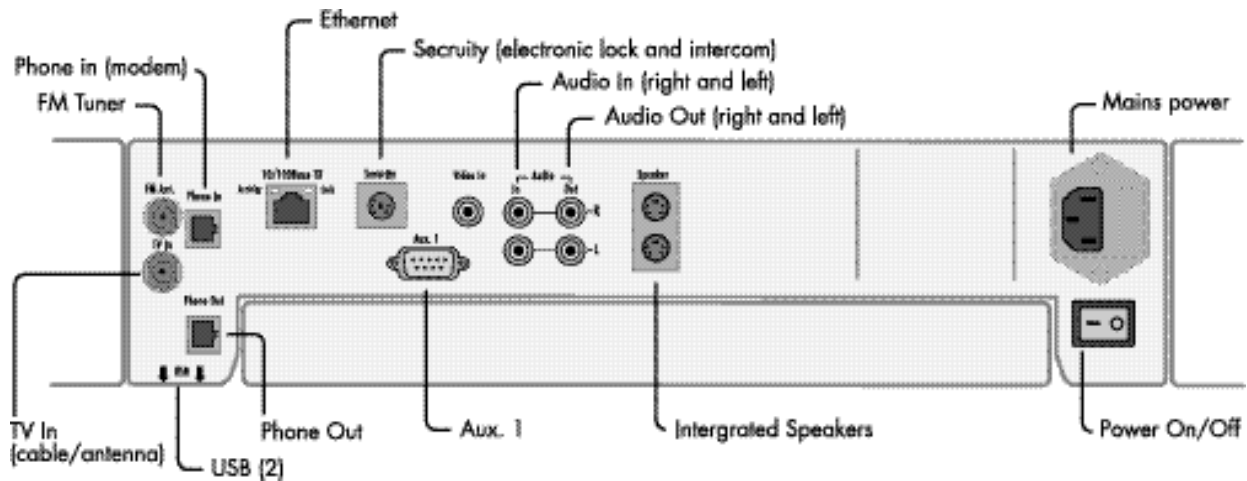

FIGURE 4. Flipscreen iCEBOX II rear panel connections
- Verify how many connections are routed to the back panel, which may include TV coaxial cable, telephone/modem, ethernet, audio and video, security, and 2 USB connections on bottom panel. (Refer to Figure 4.)
3. Slide the unit slightly forward. While supporting the chassis with one hand, reach behind the unit and unplug all connections to the rear panel. Refer to Figure 4 for locations of rear panel connectors.